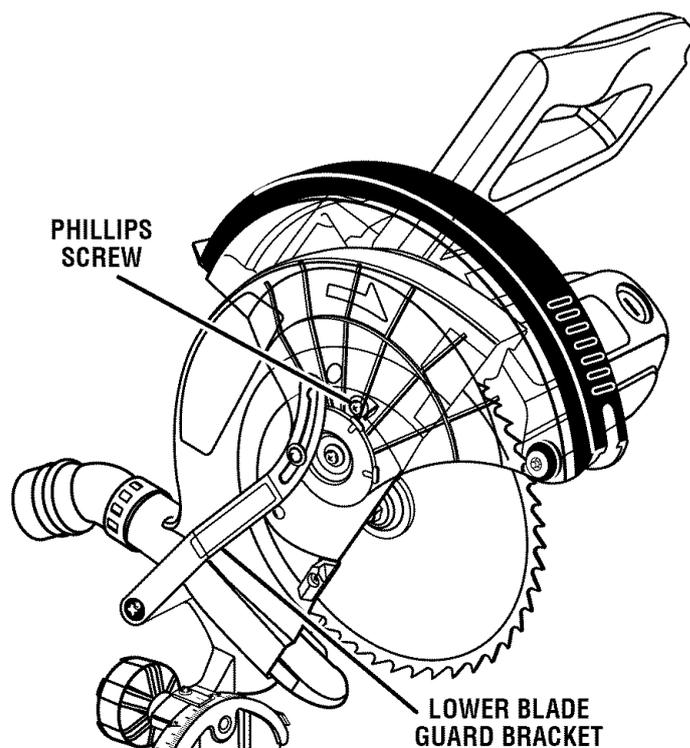

Fig. 15
See Figures 15 - 17.
- Fit saw blade inside lower blade guard and onto spindle. The blade teeth point downward at the front of saw as shown in figure 15.